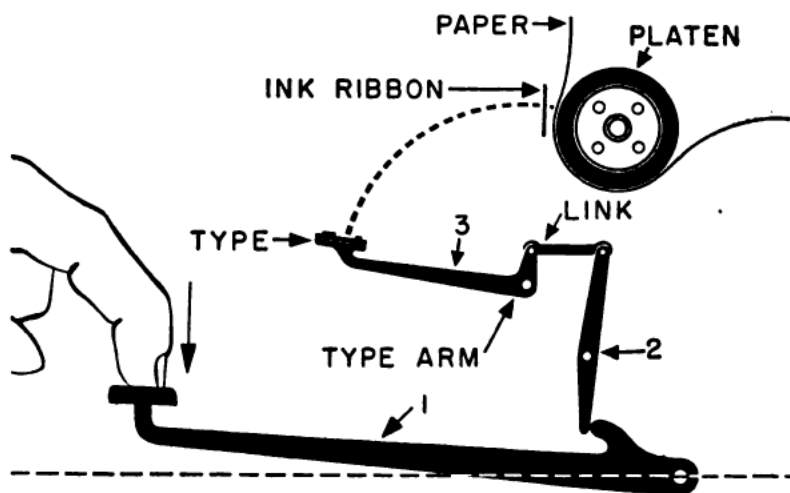

Figure 104.
4. In figure 104 you see the lever system for the type bars of a typewriter. Arm 1 is a -----class lever. Arm 2 is a -----class lever. Arm 3 is a -----class lever.